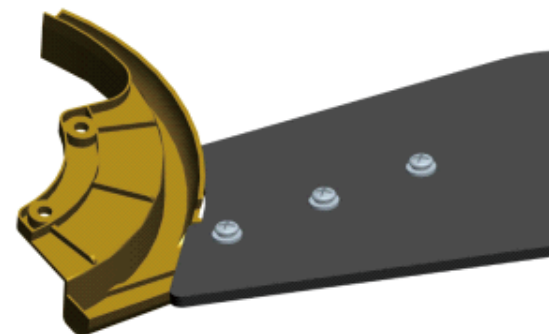

Fig 6.2
6.2 Fig 6.2 is the schematic diagram of the installed fan blade bracket. Repeat these steps for the remaining blades. Make sure all the screws are firmly tightened.